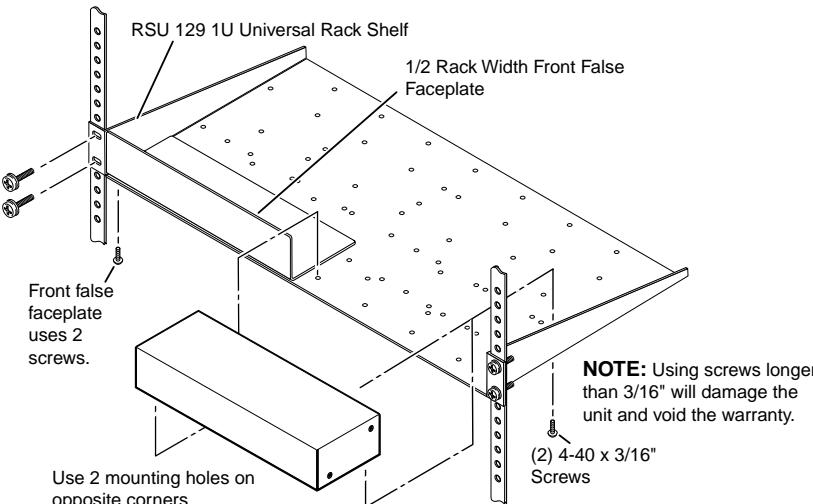

Figure 2-2 — Mounting the switcher on a standard (9.5-inch) rack shelf
- RSU 129 9.5-inch deep universal rack shelf kit (part #60-190-01) (figure 2-2, on page 2-4)
2. Mount the switcher using two 4-40 x 3/16 inch screws in opposite (diagonal) corners to secure the unit to the shelf (figure 2-2).